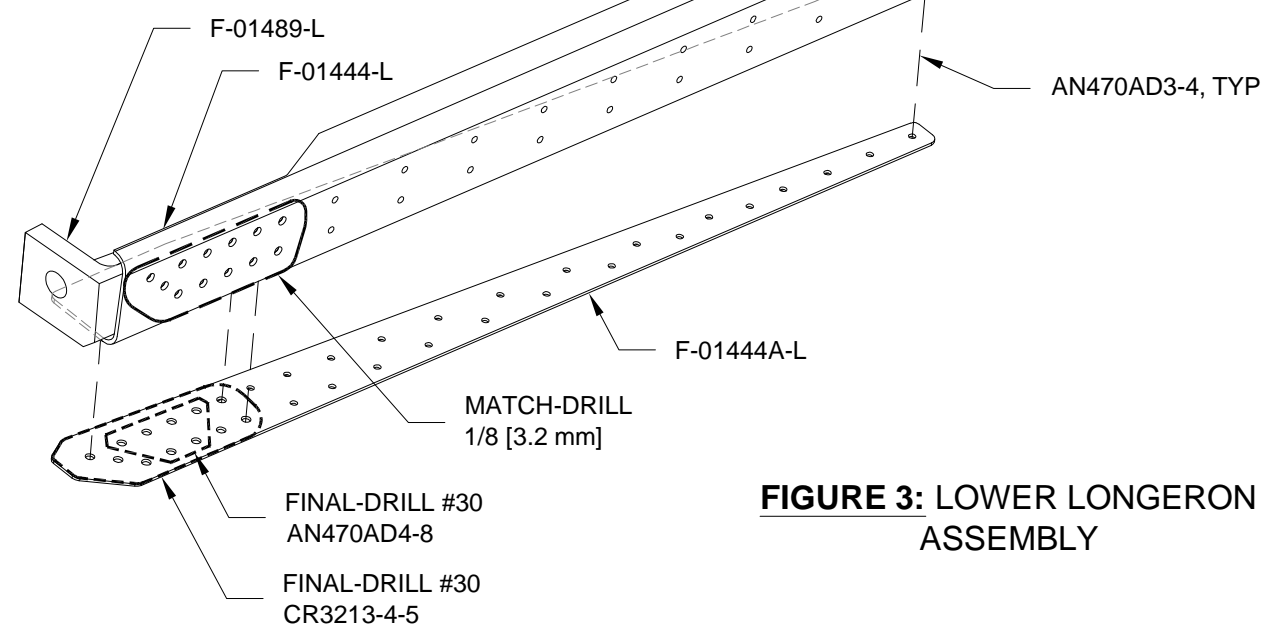

FIGURE 3: LOWER LONGERONS ASSEMBLY
Step 8: Rivet the longerons doubler to the F-01444-L Longerons and lower engine mount bracket using the rivets called out in Figure 3.